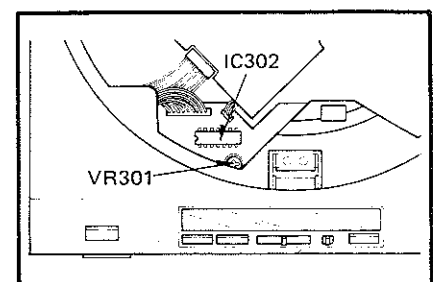

Fig. 19
• Pitch control adjustment (reference frequency) (Fig. 19)